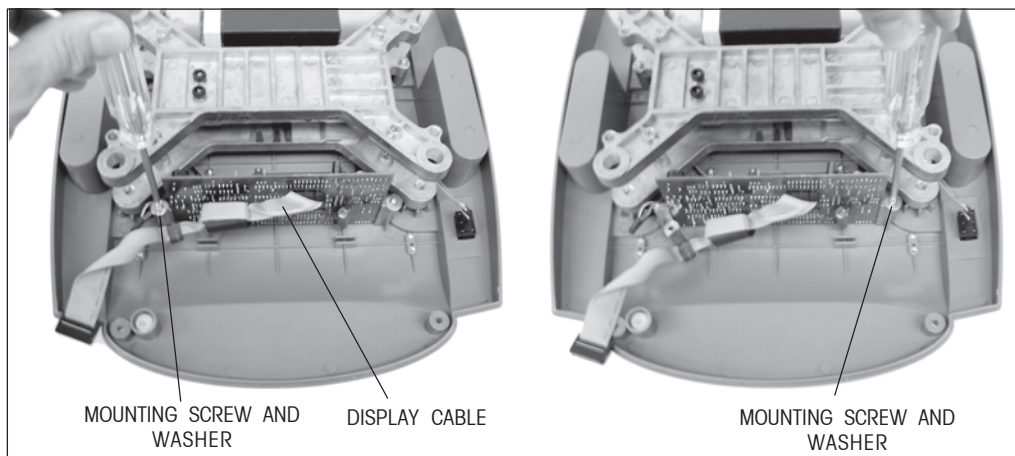

Figure 4-6. Main PC Board Screws and Washers Removal.
3. Remove the screws and washers holding the Main PC Board in place. See Figure 4-6.